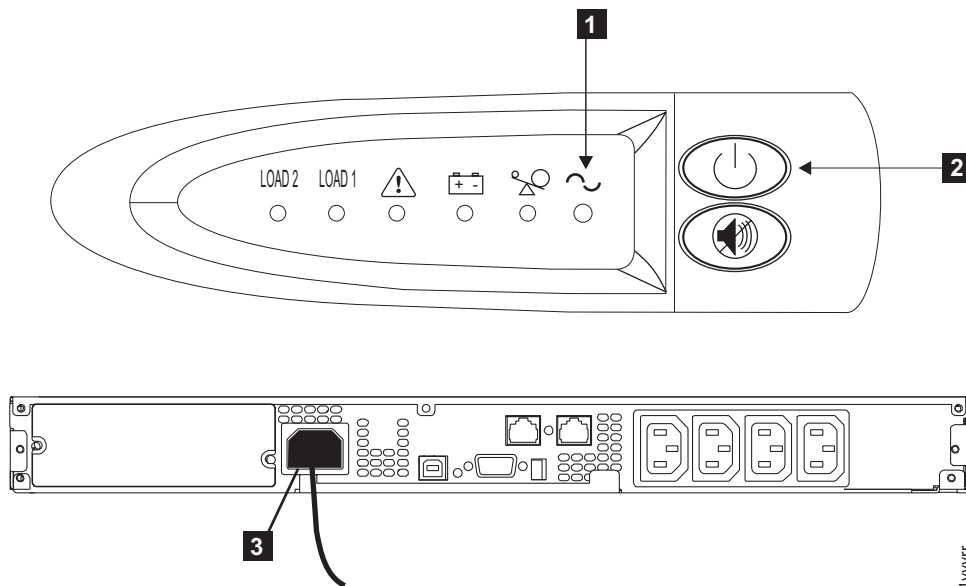

Figure 220. Front and back panels for the 2145 UPS-1U
2. Press and hold the on/off button **2** until the power light **1** is extinguished (approximately five seconds). The 2145 UPS-1U enters standby mode, with all indicators off. See Figure 220 for an illustration of the front and rear view of the 2145 UPS-1U.